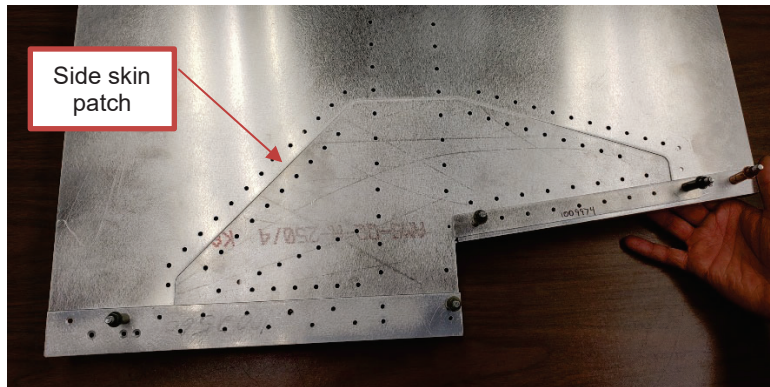

Figure 7
4. Place new side skin patch on top of the vertical spacers, ensure the patch is aligned properly with the new cutout area (see Figure 7).